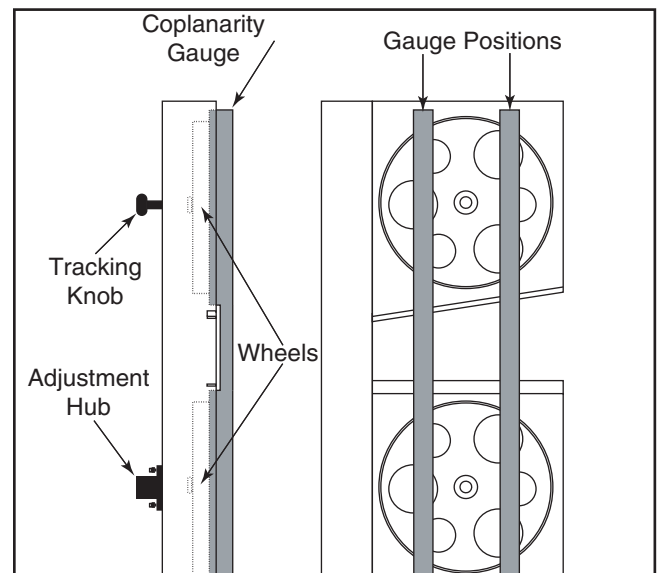

Figure 53. Checking for coplanarity.
4. Place your gauge up against both wheels in the positions shown in **Figure 53**.